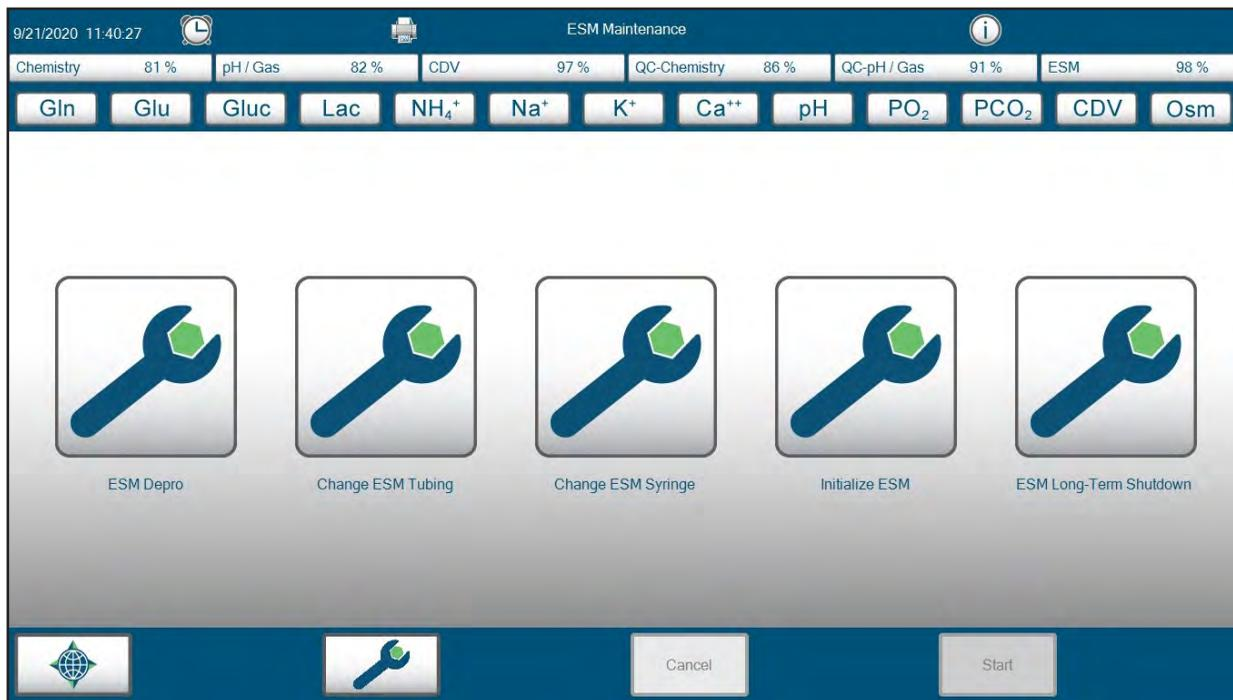

Figure 5.1 ESM Maintenance Menu
2. From within the maintenance menu, select ESM in the Command Bar to enter the ESM maintenance menu (Fig. 5.1).